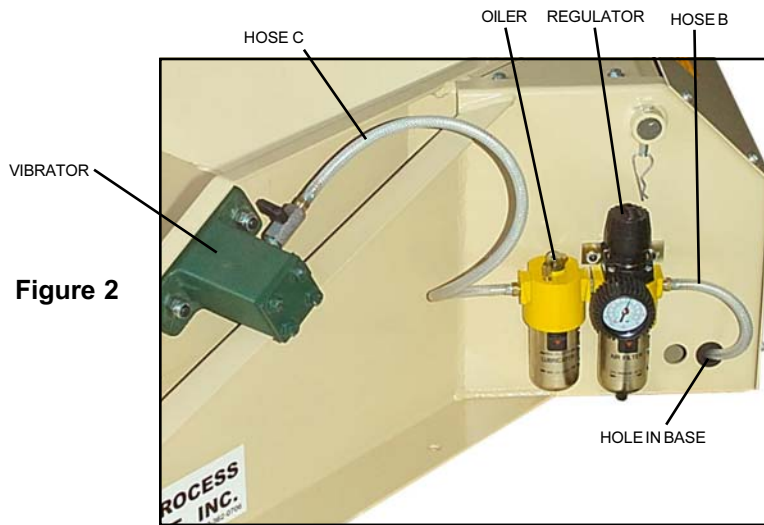

Figure 2
- 5) On the opposite side of the base from the regulator, bolt the Oiler/Regulator assembly (**see Figure 2**).